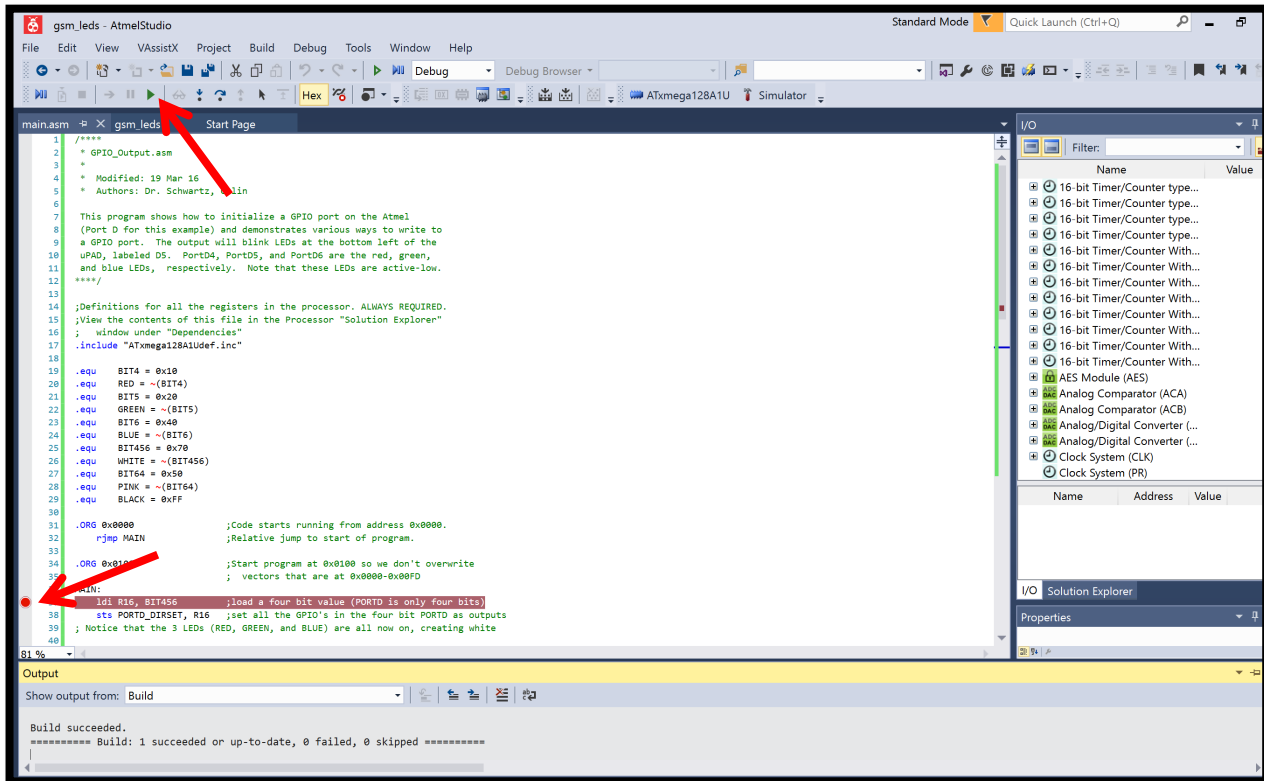

Figure 7: Breakpoint at first instruction of the given program, along with the debug Continue icon.
- Place a breakpoint in your code editor on the first assembly instruction within your *main* program, i.e., `ldi R16, BIT456`, by using your mouse to click the gray pane to the far left of the instruction. A red dot will appear next to this specified instruction, as shown in *Figure 7*.
To start the program simulation, i.e., to start debugging, you can either select the *Start Debugging* icon (also known as the *Continue* icon) specified by the green arrow near the top of the *Atmel Studio* window (see the topmost red arrow in the *Figure 7*), or navigate to **Debug** → **Continue**, or even simply press **F5** on your keyboard.